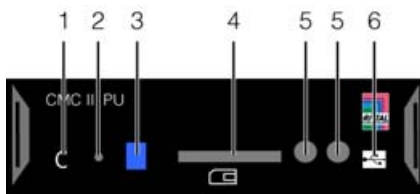

Fig. 78: Liquid Cooling Package control unit (CMC III PU) – front
In order to switch the device to normal operation (control operation), briefly press the "C" button (fig. 78, item 1) once.